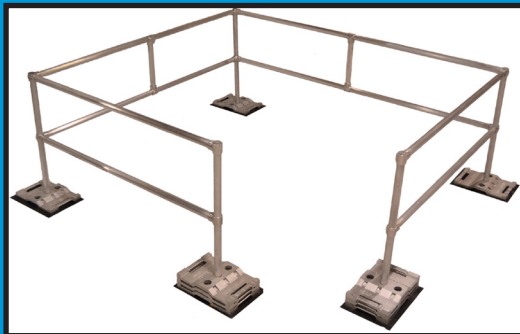

Figure 10: Complete RGC-KIT-18V
8.10 Once the system is complete (see figure 10), a second check of each set screw should be performed and once torqued, each set-screw should be marked with the blue crayon (or other marking system) to help facilitate inspection and provide indications in the event of any tampering. The warning sticker should be placed in a visible location on the top rail with the install date and reference number to assist with inspections.